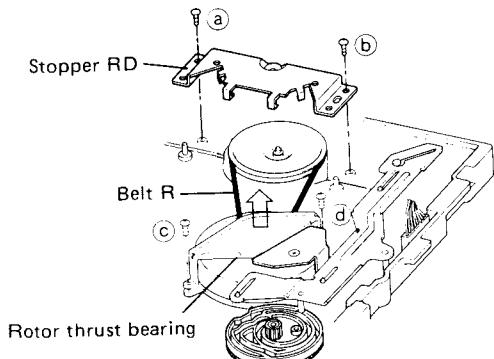

Fig. 3-9
- 1) Remove the two screws (Ⓐ and Ⓑ) retaining the stopper-RD as shown in Fig. 3-9.
- 2) Remove the two rotor thrust bearing retaining screws (Ⓒ and Ⓒ) as shown in Fig. 3-9.
- 3) Lift the rotor thrust bearing a little and remove the belt-R as shown in Fig. 3-9.